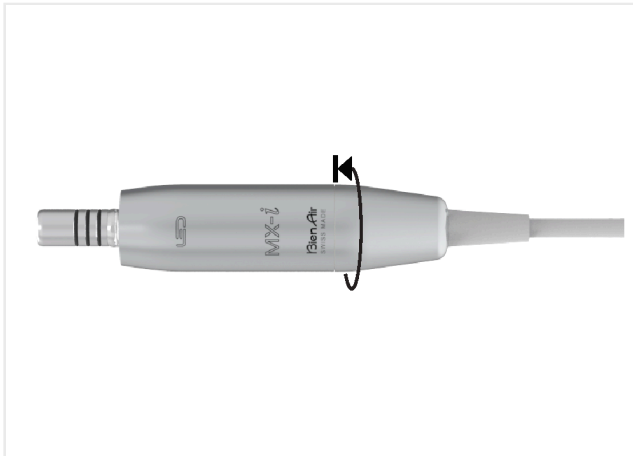

FIG. 4
4. Holding the motor fully screw the cable sleeve to the rear motor connection. FIG. 4.